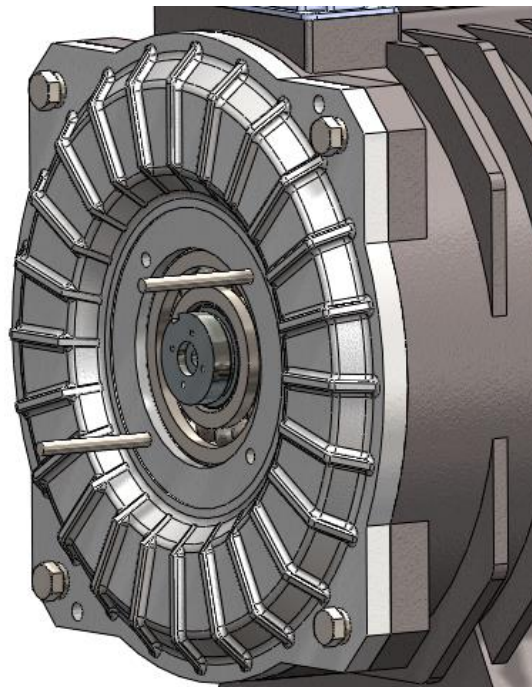

Figure 108: Back cover secured
7. Secure the back cover and the machine body with the bolt M20x70 (4 pieces) and lockwasher20 (4 pieces). Disassemble the double end studs M20x150. See Figure 108.